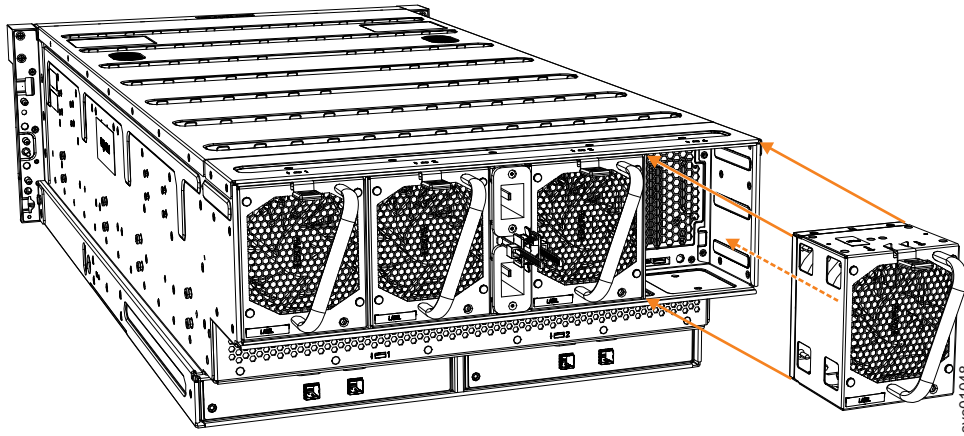

Figure 83. Remove fan module
3. Use the handle to pull the fan module out of the expansion enclosure chassis, as shown in Figure 83 on page 228.